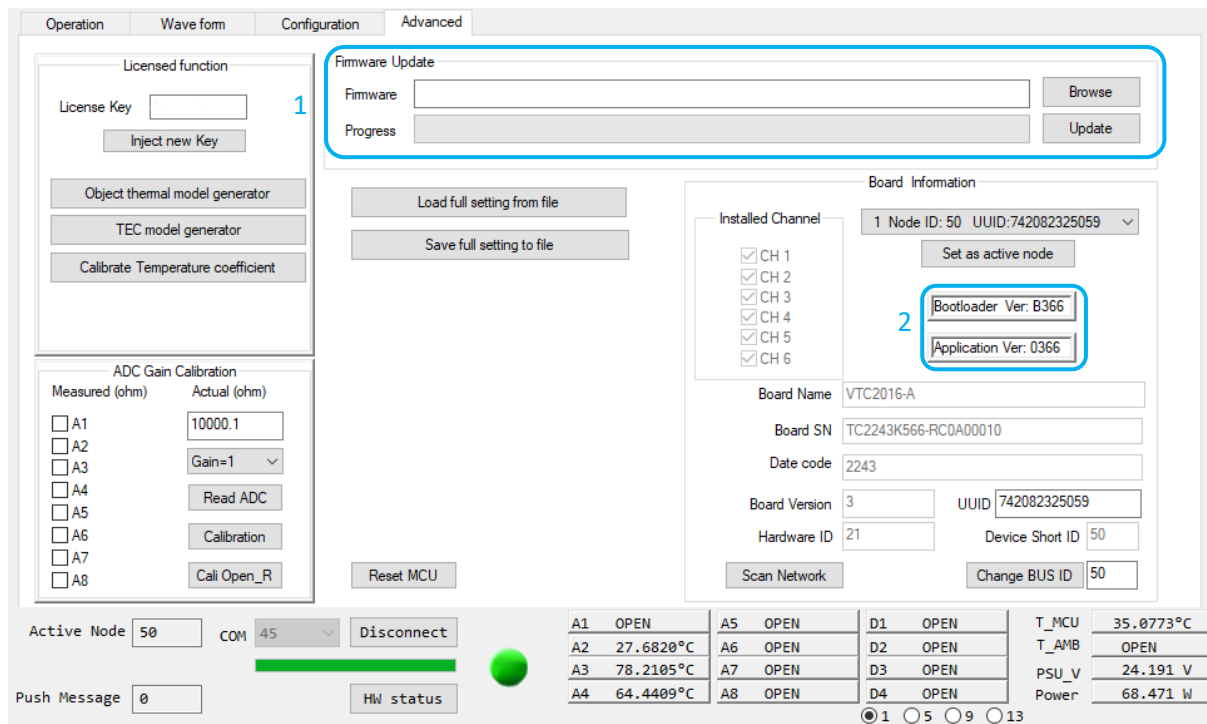

Figure 4.1: Firmware Update
As shown in Figure 4.1, users can update their bootloader and application firmware version in (1).